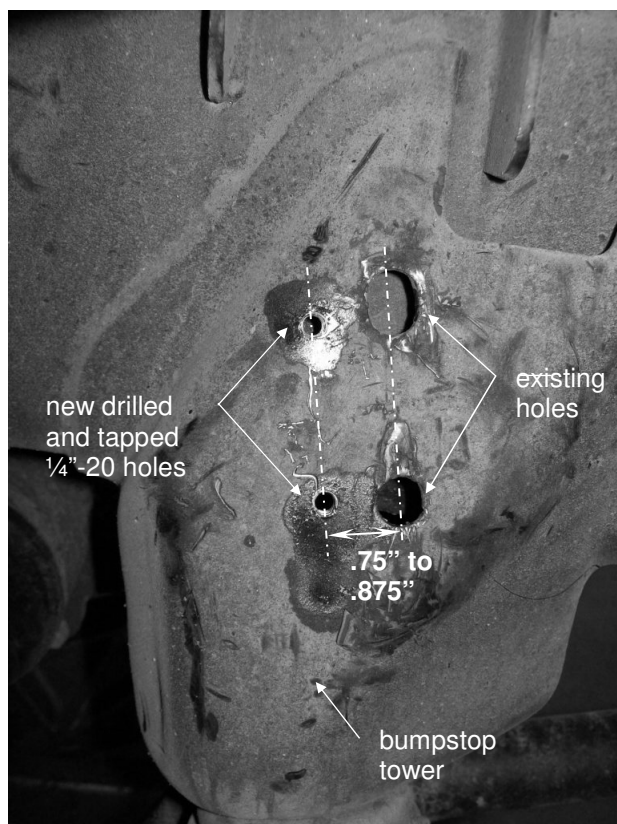
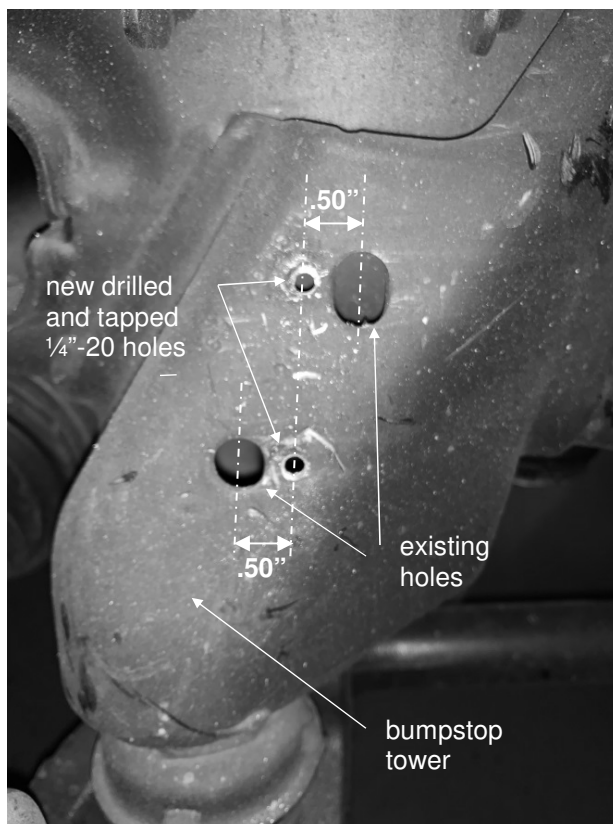

Figure 2 – 2011-2019 Model Years
Figure 3 – 2020+ Model Years
- C. Figure 2 depicts the recommended locations of the bracket mount holes for 2011-2019 model years. Figure 3 depicts the recommended locations of the bracket mount holes for 2020 and newer model years. The driver side is shown.
For 2020 and newer model years: Mark or scribe the side of the bumpstop tower with a line approximately .50" between the upper and lower holes as depicted in Figure 3.